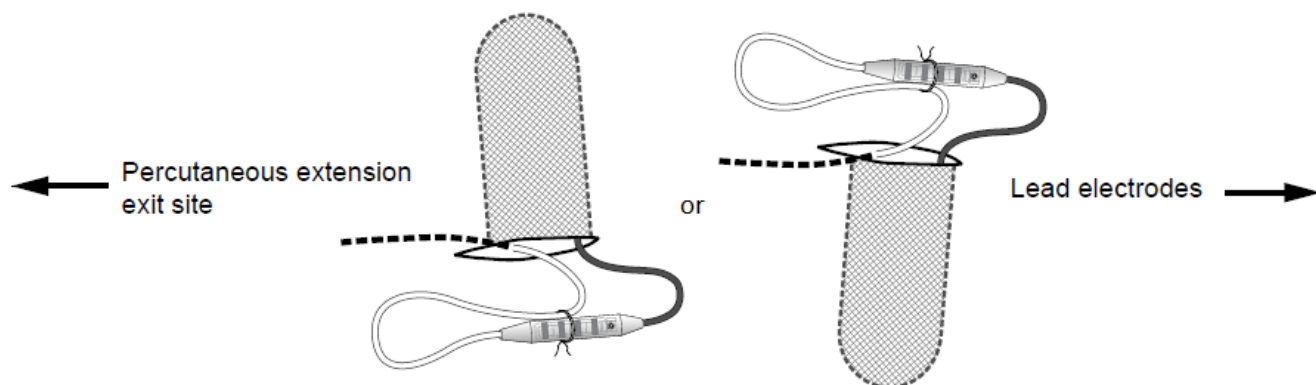

Figure 3. Enlarged image of the subcutaneous pocket above and below the incision for the percutaneous extension and strain relief loops.
3. Create a subcutaneous pocket above or below the incision that is perpendicular to the percutaneous extension tunneling path to place the percutaneous extension connector and strain relief loops (Figure 3 and 4).